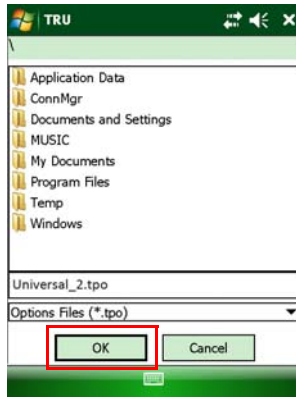

Figure 4-9. TRU – Locating an OAF
3. Locate and select the new Option Authorization File, and click **OK** (Figure 4-9).